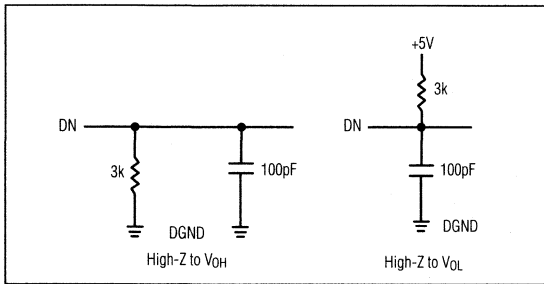

Figure 1. Load Circuits for Data-Access Timing
**Note 4:** tdv is the time required for an output to cross +0.8V or +2.4V measured with load circuit of Figure 1.